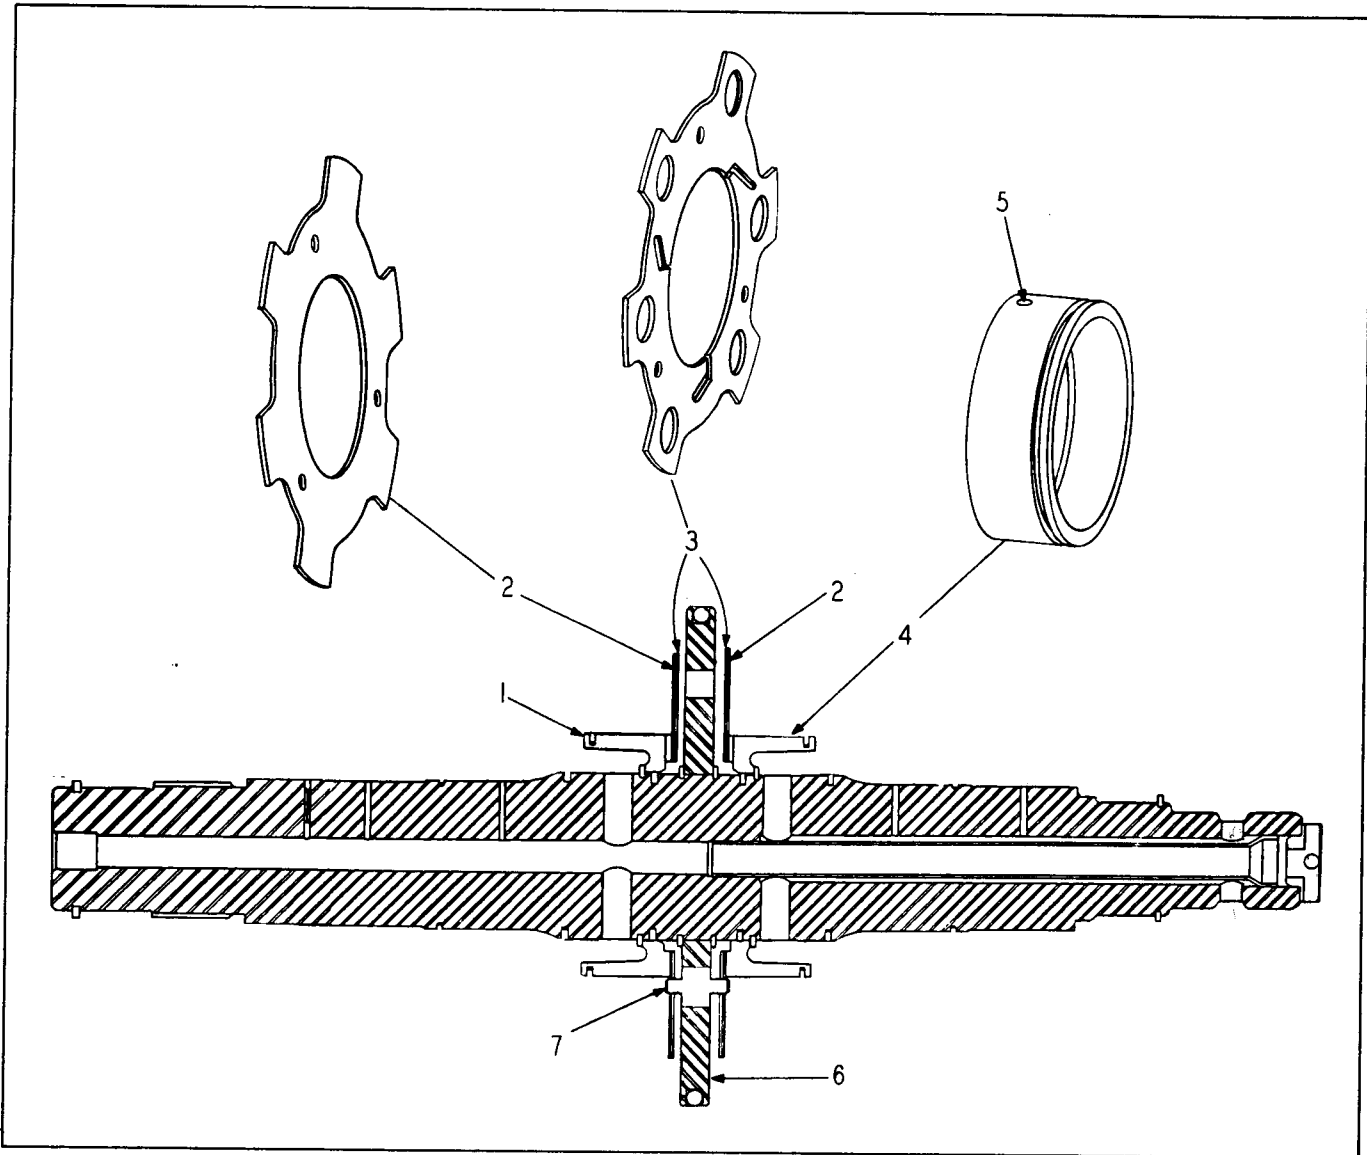

Figure 1-23
On each side of the separator plate (6, Fig. 1-23) there is a reinforcing disc (3) and a disc valve (2). The disc valve is made of a thin flexible material and functions as a one way valve. Three floating pins (7) pass through the separator plate (6). Their function is to hold the reinforcing discs (3) and valves (2) away from the separator plate when the opposite clutch is applied. In addition, the pins (7) properly position the discs and valves.